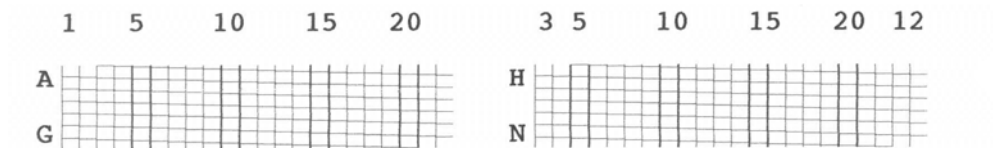

Figure 26: Pattern A
- Pattern A visualizes the condition of the cartridge contacts in a grid pattern (see Figure 26 below).